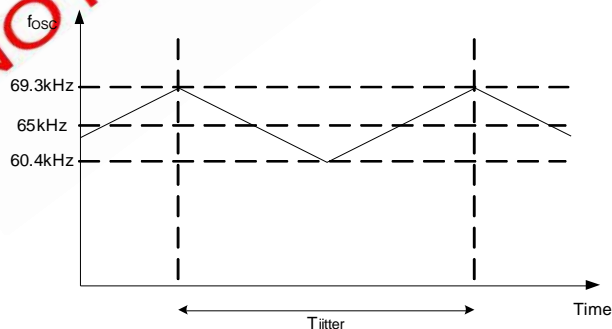

Figure 3: Frequency Jitter
A controlled current sourced (fixed at $2.72\mu\text{A}$ when $V_{FB}=2\text{V}$) charges the internal 14pF capacitor. Comparing the capacitor voltage to the TIMER voltage estimates the switching frequency as per equation (1). V_{TIMER} is a triangular wave that ranges between 2.8V and 3.2V with a charging/discharging current of $10\mu\text{A}$. Figure 3 shows the frequency jitter, τ_{jitter} , as per equation (2).